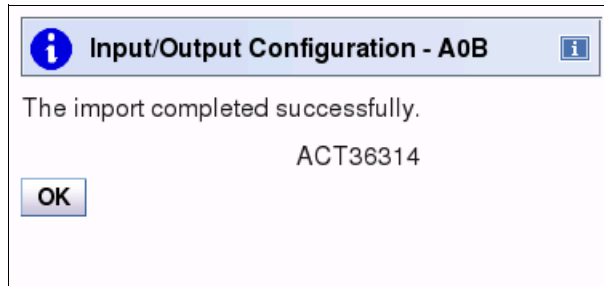

Figure 6-133 HMC - SAIOCP: source file imported
14. The source file is now read from the USB drive. Click **OK** (Figure 6-133).